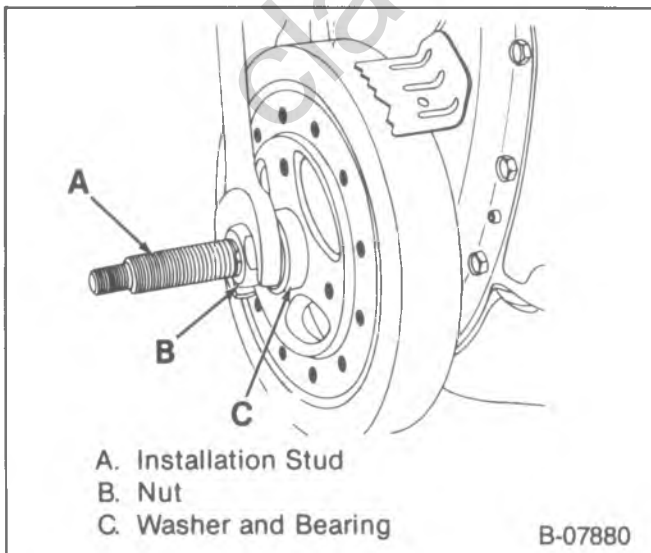

Figure 18—Installing the Torsional Damper
3. Stud (item A, figure 18) to the crankshaft. Thread the stud fully into the tapped hole in the crankshaft.
5. Bearing, washer and nut (figure 18).